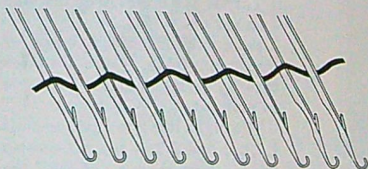

Fig. 21
(1) Lay across the thread upside and underneath of the needle's stems mutually. (See Fig. 21)
(2) Knit by carriage with the other yarn in the yarn feeder.
(See Fig. 21)